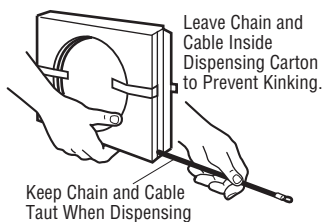

Figure 1
1. Dispense a few inches of chain from carton and fasten to trolley with a master link from the hardware bag. (Figure 1).
4. Use the second master link to connect the chain to the flat end of the shaft (Figure 1). **Check to make sure the chain is not twisted.**